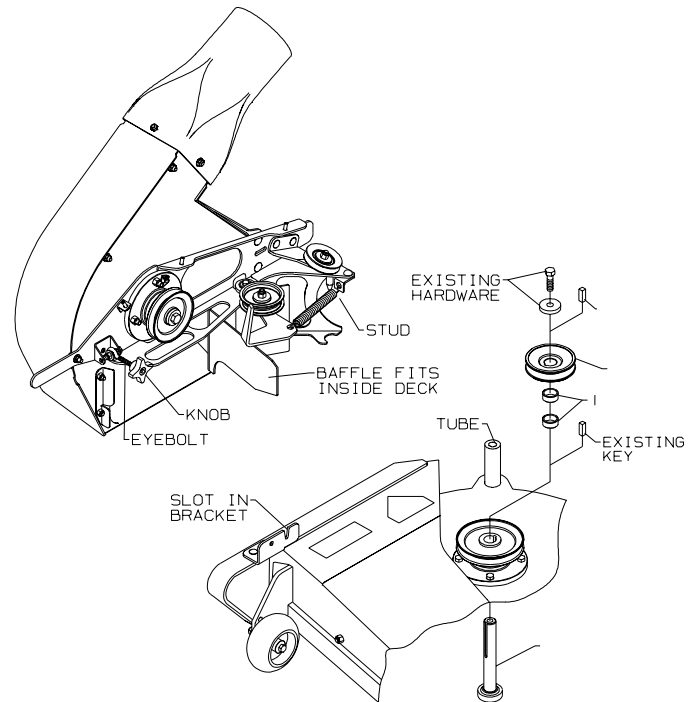

FIGURE 7
7. Attach blower housing assembly to mower deck. First, insert the stud at rear of blower housing into tube at rear of deck discharge opening. See Figure 7. Rotate blower housing around toward the front. The eyebolt at front of blower housing will nest into slot in deck bracket. Tighten with knob on eyebolt. See Figure 7.